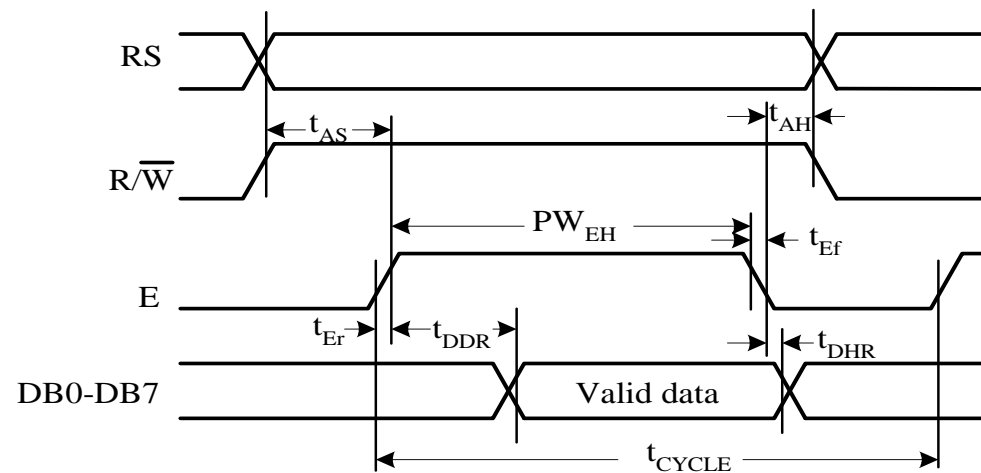

Figure 7.22 HD44780 LCD controller read timing diagram
- The read and write timing diagrams are shown in Figure 7.22 and 7.23.